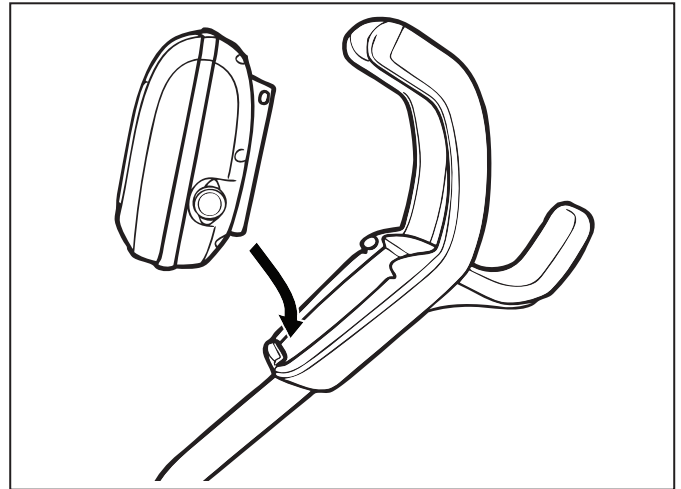

Figure 9. Align Control Unit on Caddy Hook
- Align the bottom of the control unit with the notch at bottom of the control unit hook on the caddy (Figure 9).